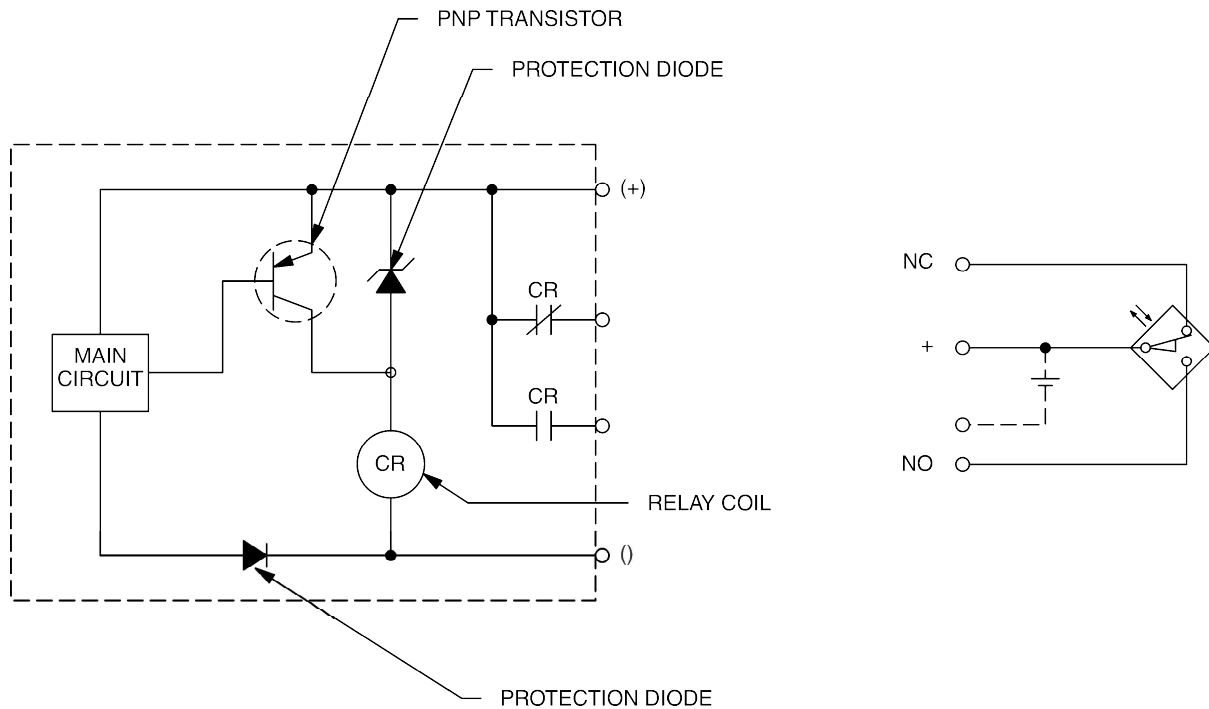

Figure 4. Relay output.
Because the maximum output current of output transistors is low ( $\approx 100$  mA), a coil operating a set of normally-open (NO) and normally-closed (NC) contacts is often connected at the transistor output, as shown in Figure 4. This is the case for the sensors of your training system.